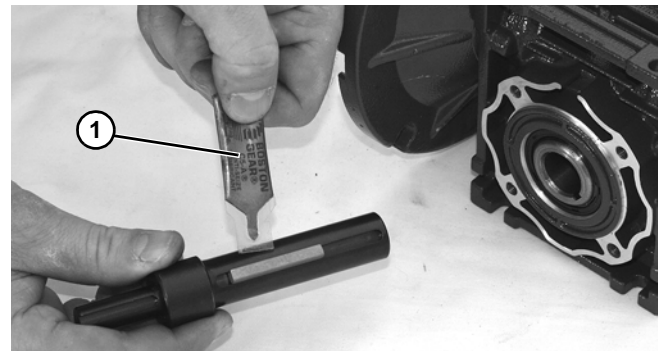

Figure 21
9. Apply anti-seize (Figure 21, item 1) to shaft.